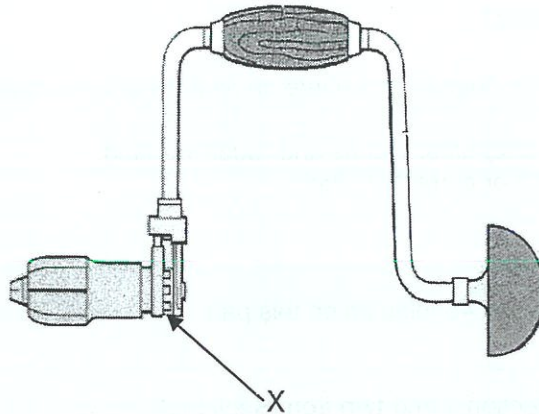

Fig. 1
- 3 **Fig. 1** shows a woodworking tool.